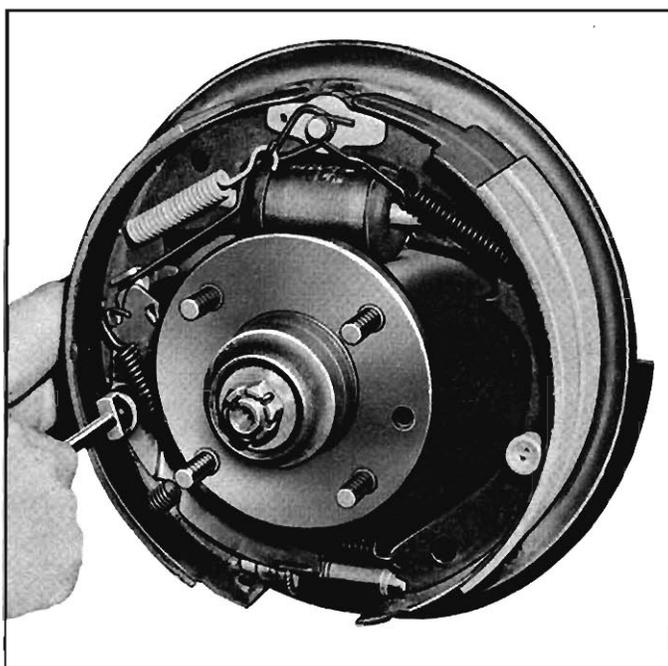

Fig. 5-8 Removing Hold Down Springs and Pins
7. Remove hold-down pins and springs using a pair of needle nose pliers (fig. 5-8).